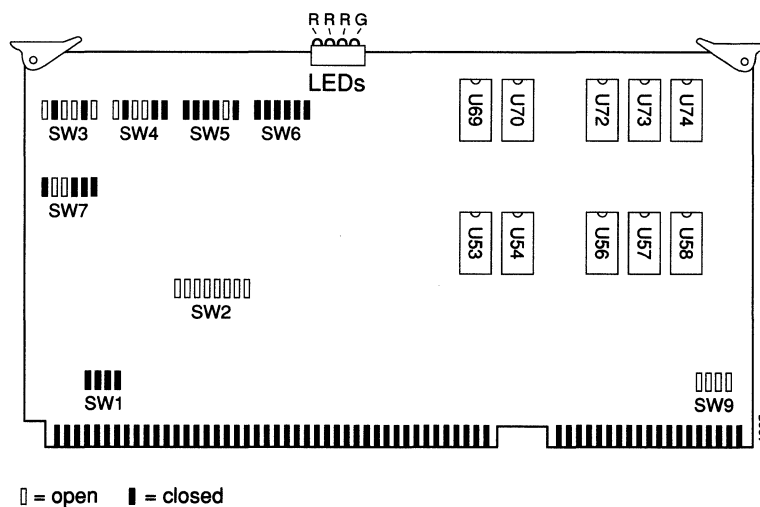

Figure 5-19 CSC-MT Enhanced Memory Card — Component Side View
A memory card so configured is referred to as an *enhanced memory card*, and can be recognized by the presence of ten large static RAM chips, as indicated by the ten large blocks in Figure 5-19.
- Step 3:** Confirm the switch settings shown in Figure 5-19. The CSC-MT card has no user-selectable settings. It comes preconfigured from the factory and needs no other configuration.